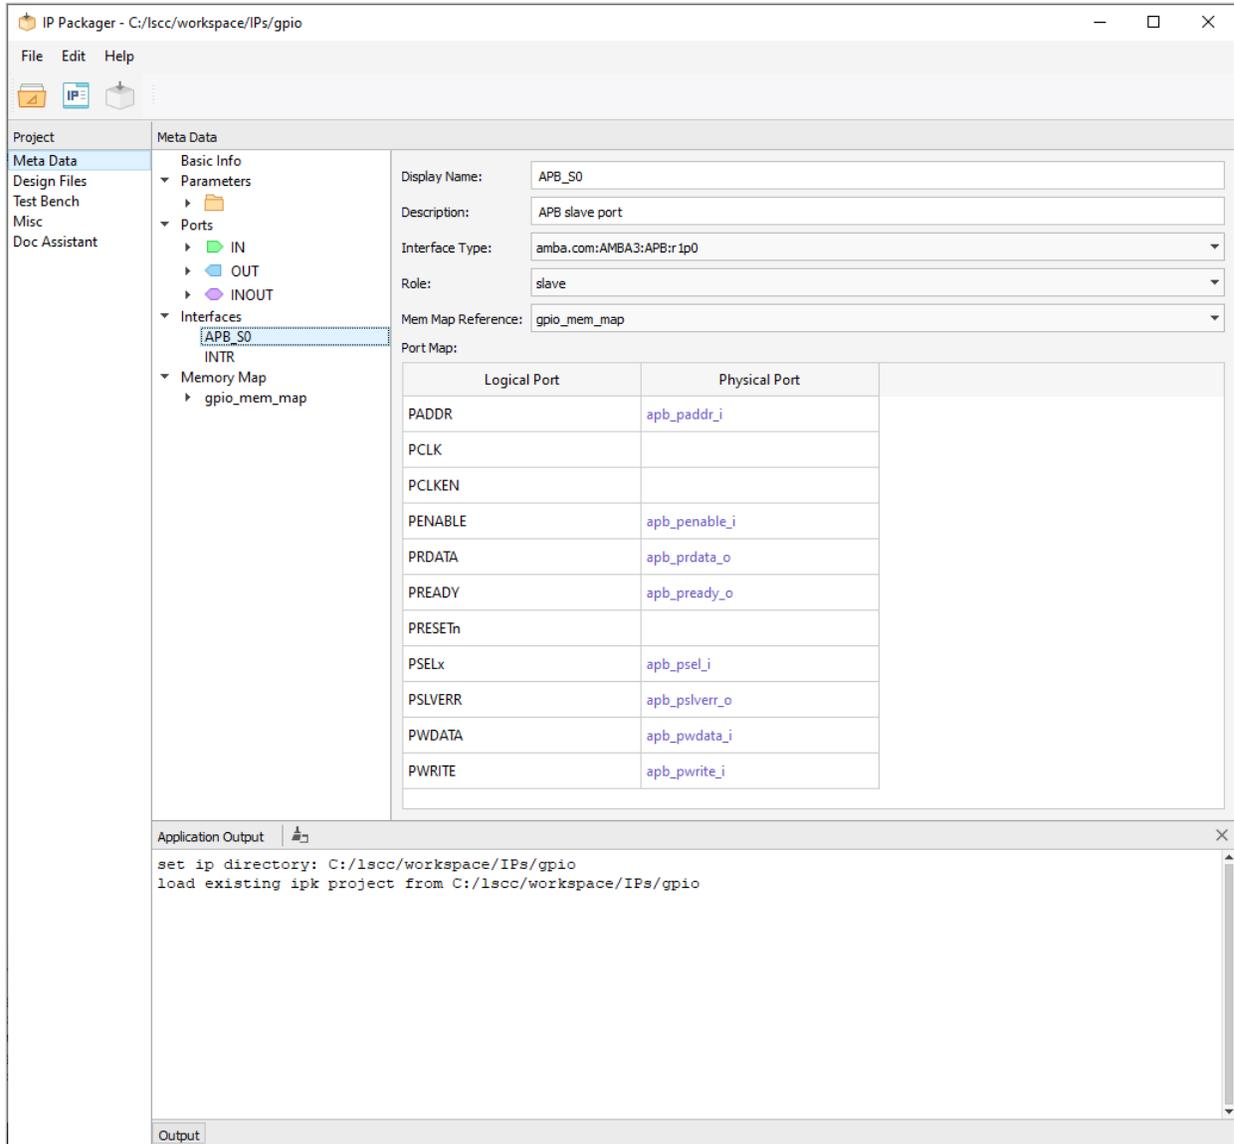

Figure 3.25. Configure an Interface
- Configure the interface as desired (Figure 3.25).